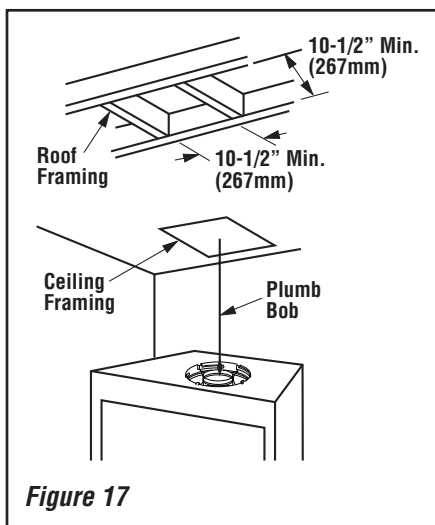

Figure 17
A. Frame ceiling opening - Use a plumb line from the ceiling above the appliance to locate center of the vertical run. Cut and/or frame an opening, 10-1/2" x 10-1/2" (267mm x 267mm) inside dimensions, about this center mark (**Figure 17**).
C. Frame ceiling opening - If the vertical route is to penetrate a ceiling, use plumb line to locate the center above the appliance. Cut and/or frame an opening, 10-1/2" x 10-1/2" (267 mm x 267 mm) inside dimensions, about this center (refer to **Figure 17** on **Page 14**).